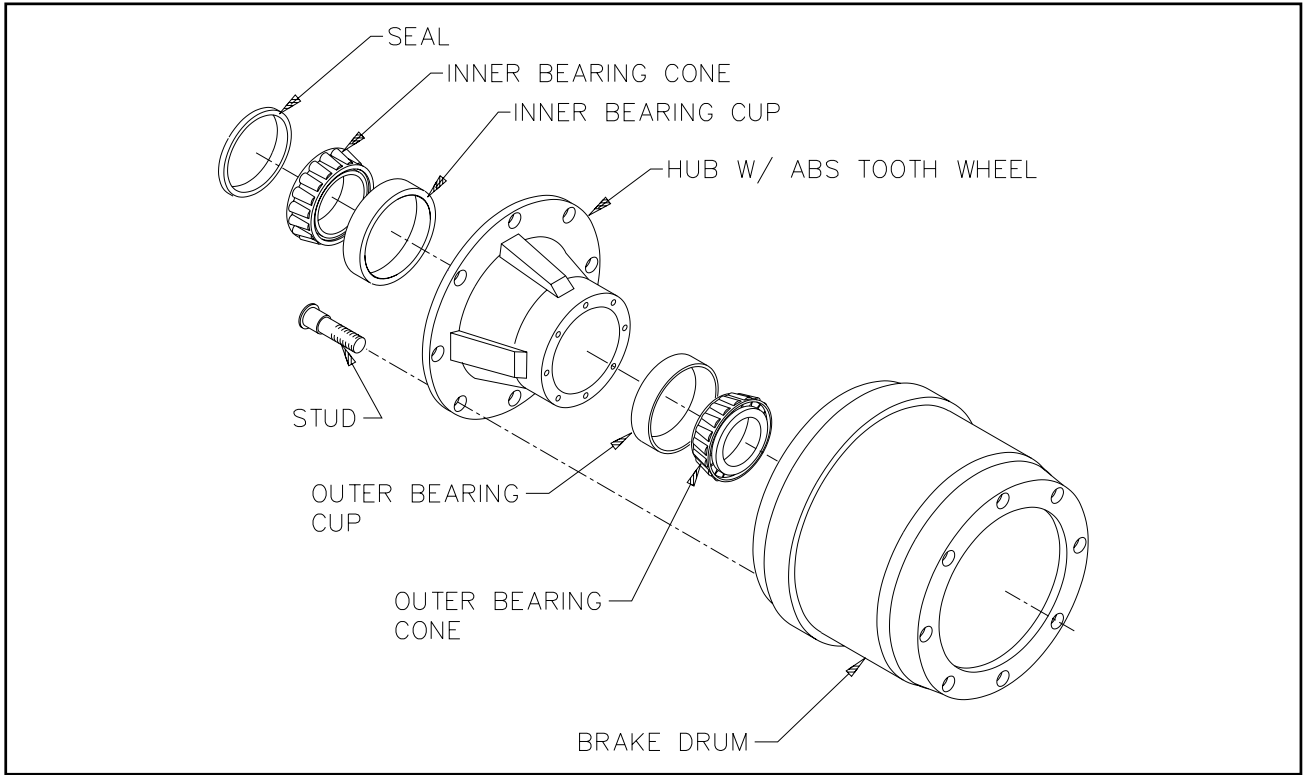
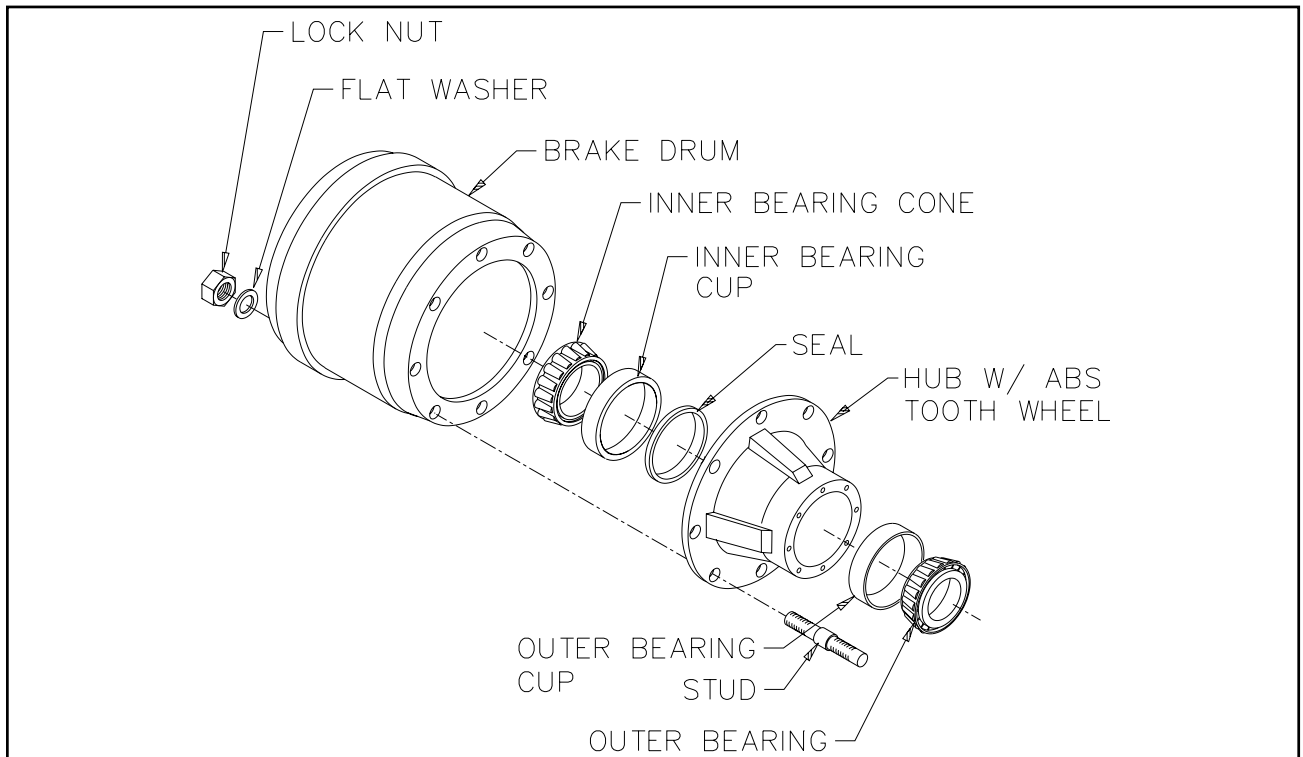

Figure 4-11 Outboard Mount Hub and Drum
Figure 4-12 Inboard Mount Hub and Drum
(See Figures 4-11 and 4-12):
- a. For outboard mount hub and drum remove the brake drum (See Figure 4-11). It may be necessary to release the slack adjuster. For inboard mount (See Figure 4-12), remove drum after hub.
- s. For Outboard Mounted Brake Drum (See Figure 4-11) place the drum over the hub and brake shoes being careful not to damage the threads on the studs. Make sure the drum seats flat against the hub flange and mates properly with the hub pilot. There should be no interference between the brake drum pilot chamfer and the corner radius on the hub. If interference exists, the hub will not be able to function properly.